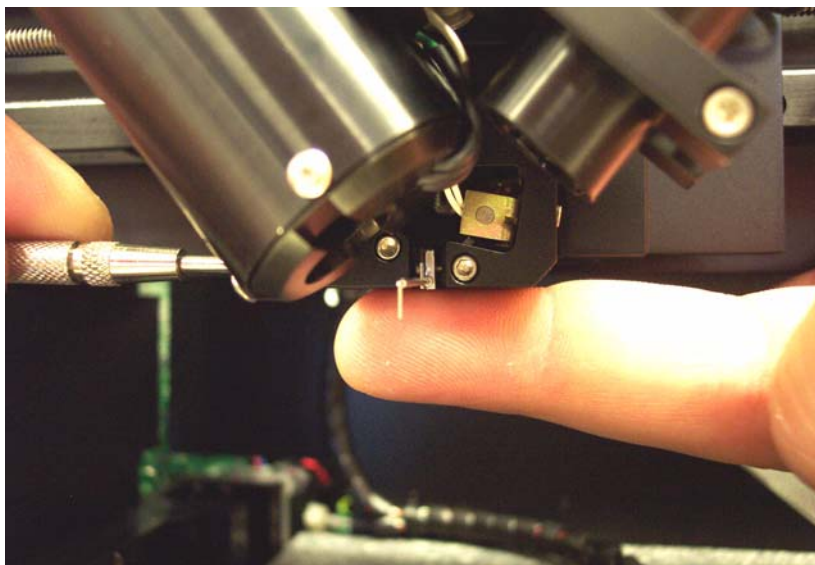

Figure 9.2: Use your index finger to gently support the sensor mount while loosening the screw and removing the stylus.
8. Carefully tighten the #0090 screw as shown in Figure 9.2.